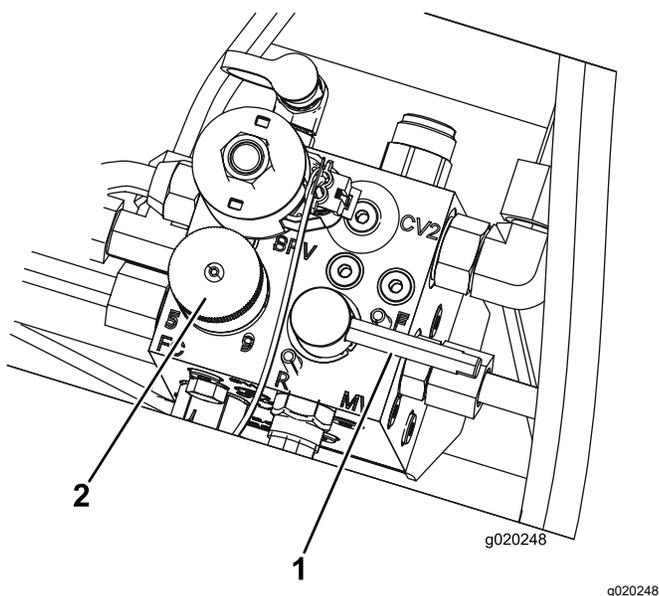

Figure 101
3. Move the backlap lever to the F (mow) position (Figure 101).